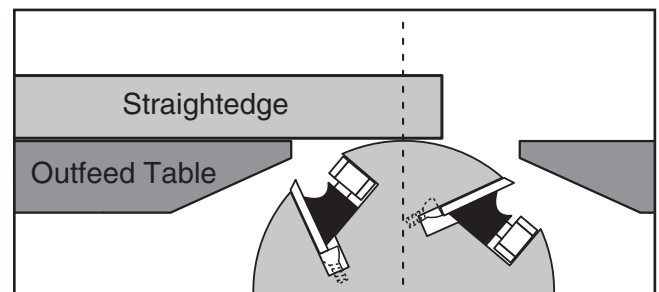

Figure 45. Adjusting outfeed table even with cutterhead body (knife-style cutterhead shown).
- Rotate motor pulley so that you can access cutterhead body with straightedge between the knives/inserts, as shown in **Figure 45**.